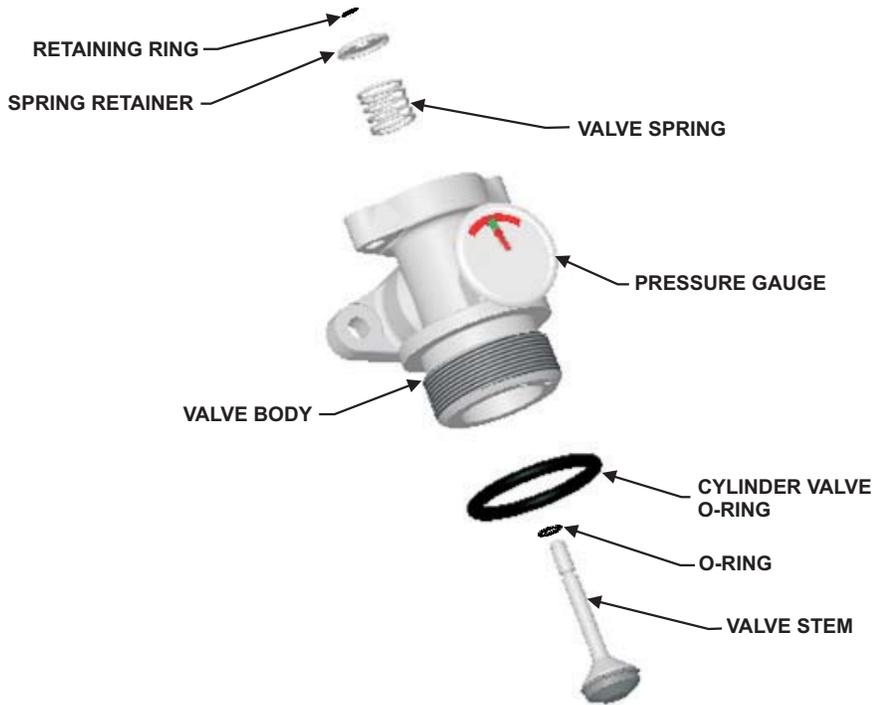

Figure 5-16. Valve Assembly, Exploded View
1. Put a light coating of lubricant (supplied in the Valve Rebuild Kit) on the valve stem O-ring. Do not grease the bonded seal on valve check (see Figure 5-16).